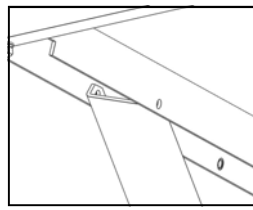
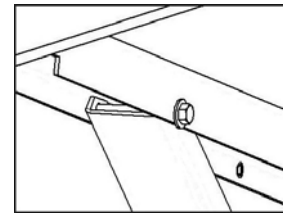

Figure 9
Figure 10
8. Line up the outer most holes in the **Module Support** with the holes in the **Angle Brace** (Figure 9) Use the 5/16 x 3.0" bolts with washers under the bolt head to attach the **Angle Brace** and the **Module Support** together (Figure 10)